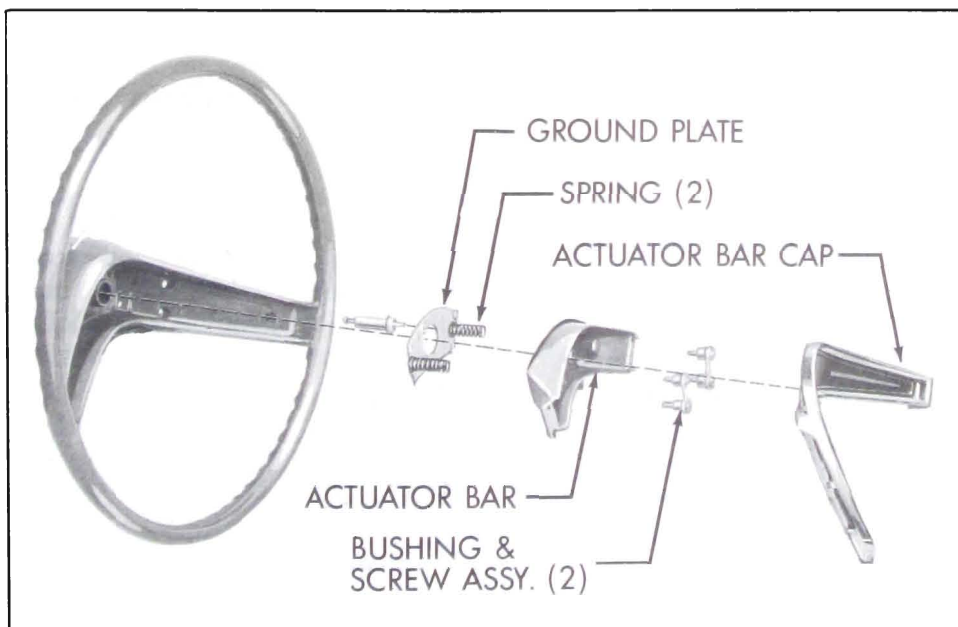

Figure 8-6—Steering Wheel Assembly
4. Remove cap from steering wheel. See Figure 8-6.